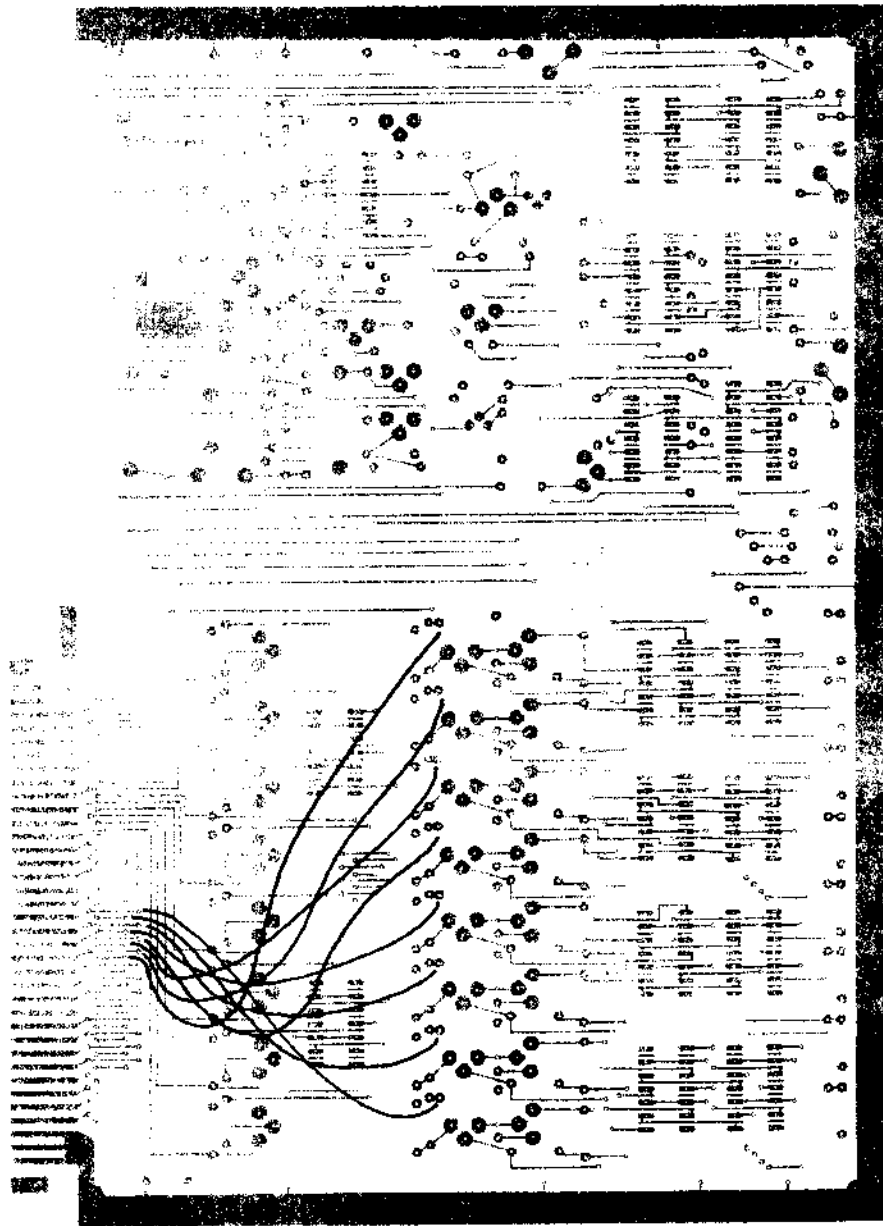

Figure 3. Data to PROGRAM SOCKET Wiring
- ( ) Cut eight lengths of wire approximately 4-1/2 inches long. Strip 1/4 inch of insulation from each end. Install the wires as shown in Figure 3. Solder and cut off excess lead length.